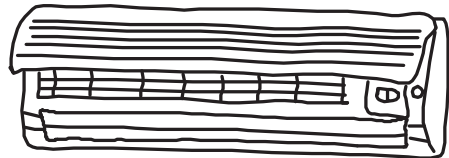

Fig. 4
1. Open the front panel. (Fig. 4)